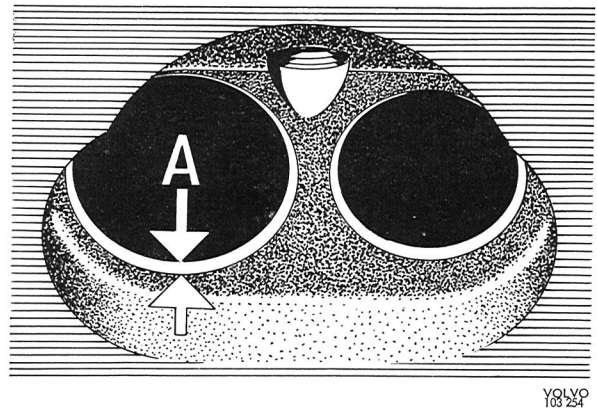

Fig. 2-31. Valve seat width A=2 mm (.08")
2. Grind the valve seats. Use an electrically driven grinder or a hand milling cutter. A pilot spindle must be carefully installed before work is started and any worn guides must be replaced with new ones. The seat should be ground until a good sealing surface is obtained. The angle is 45° and the width of the sealing surface should be approx. 2.0 mm (.08"), see "A" Fig. 2-31. If